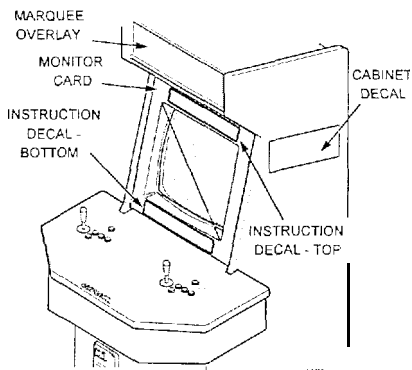

Figure 2: Cabinet Decal Installation
16. Peel-off the backing to the instruction decals and place on both the top and bottom of the monitor card. (See Figure 2) Also, apply the cabinet decals to both sides of the cabinet.